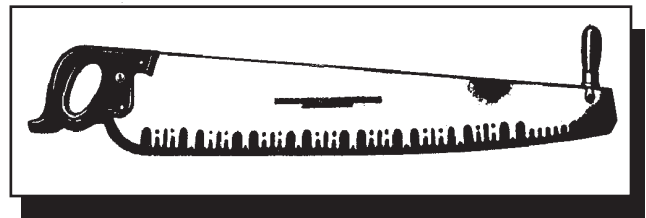

Figure 5-1—One-person crosscut saw.
**One-Person Crosscut Saws**—A one-person crosscut saw's blade is asymmetrical. The saw has a D-shaped handle. The saw also has holes for a supplemental handle at the point (tip) and the butt (near the handle). The saws are usually 3 to 4½ feet long (figure 5-1).